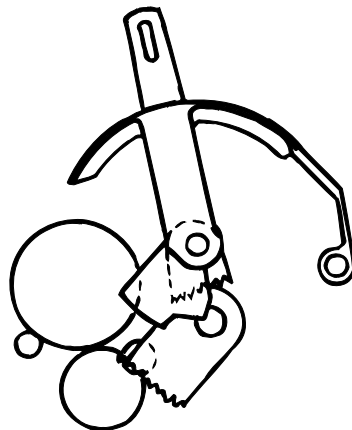

Figure 2-13
(7) Paper clamp mechanism (See Figure 2-13.)
- 1) Set the change lever to the **TOP** position. (See Figure 2-13.)
- 1) Set the change lever either to the rear side or the bottom side position. (See Figure 2-13.)